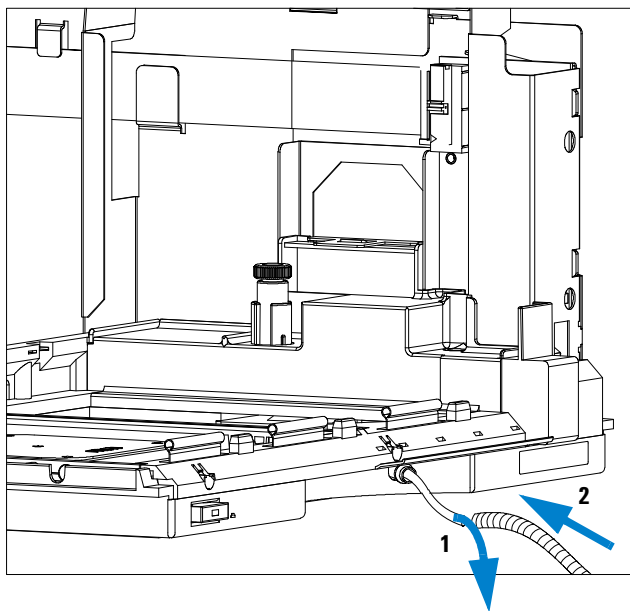

Figure 5 Installing the Corrugated Waste Tubing in the Plastic Port
- 5 Install the corrugated waste tube in the plastic port at the front bottom center of the instrument. Slide the waste tubing coming from the internal tray (if present) through the plastic port and the corrugated waste tube (see Figure 5 on page 19). Route the corrugated waste tubing into a waste container.
- 8 Slide the waste tubing coming from the internal tray (if present) through the plastic port and the corrugated waste tube (see Figure 5 on page 19). Route the corrugated waste tubing into a waste container.